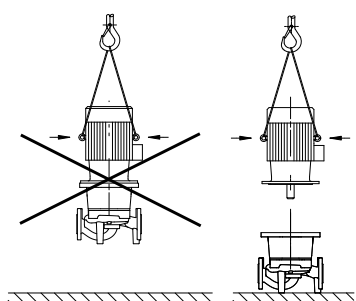

Fig. 8: Transporting the motor
- The transport eyes on the motor are only for transporting the motor, and are not approved for transporting the complete pump (Fig. 8).